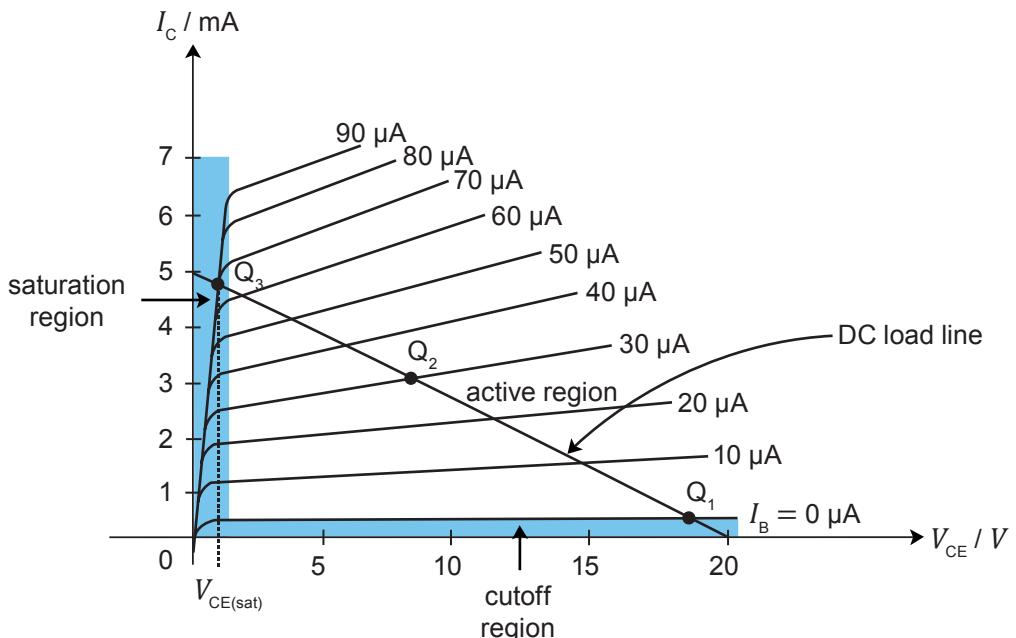

Figure 9.14 I_c - V_{CE} characteristic graph of BJT with DC load line
This is the voltage between the collector and the emitter. V_{CE} provides information on the operating point of the BJT (see Figure 9.14).
To apply this characteristic graph on a circuit, we need to draw an additional graph called the **DC load line** of the circuit onto the characteristic graph, as shown in Figure 9.14. The DC load line reflects the conditions which V_{CC} and R_C impose on the BJT:
- The DC load line intercepts the horizontal axis at V_{CC} (20 V in Figure 9.14).
- The DC load line intercepts the vertical axis at $\frac{V_{CC}}{R_C}$ (5 mA in Figure 9.14).